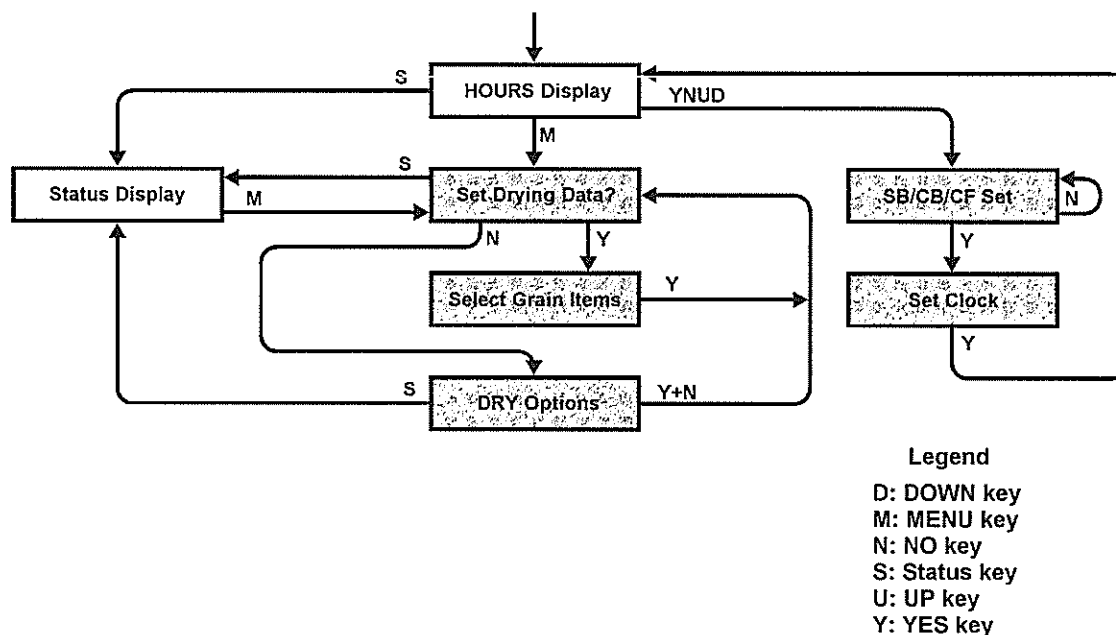

Figure 4-B Path from hours display to status display
4.2.2.2.2 Controller Status display - Press the **STATUS** key. The path to reach the **STATUS** display message is shown in Figure 4-B.